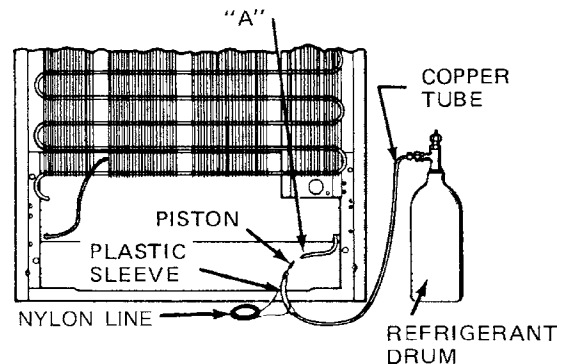

Fig. 12-20 An older technique using vapor pressure from refrigerant drum to blow the piston and nylon assembly through the hot tube. (Kelvinator)
7. Insert the piston into the hot tube A. Slide the plastic sleeve onto the hot tube A. Insert the $\frac{3}{8}$ in. OD copper tube into the opposite end of the plastic sleeve. Install a flare nut on the copper tube and flare the tube. Connect to the refrigerant drum. See Fig. 12-20.
9. Insert the piston into hot tube A. Slide the plastic sleeve onto hot tube A. Insert the $\frac{3}{16}$ in. OD copper tube into the opposite end of the plastic sleeve. Install a flare nut on the copper tube and flare tube. Connect to the refrigerant drum. See Fig. 12-20.